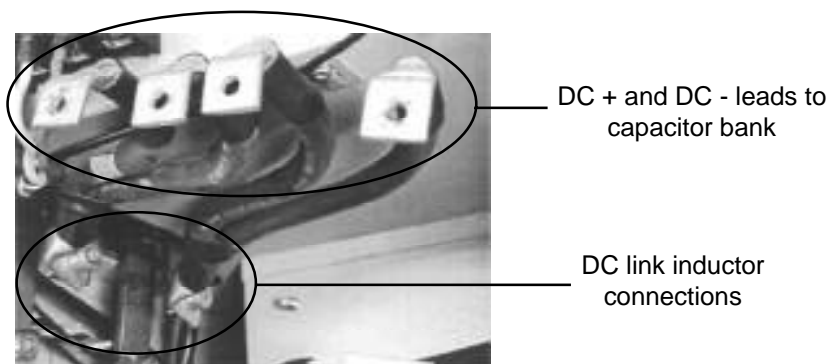

Figure 5. DC capacitor bank connections
- **NEMA 12** - Remove the DC+ and DC- leads coming from the DC link inductor to the top of the capacitor bank (See Figure 5). Ensure these leads are taped off and adequately insulated to protect personnel and equipment.
- **Chassis and NEMA 1** - Remove the two Torx head screws from the DC link inductors while keeping the wire assemblies attached to the DC bus assembly (See Figure 5). It may be easier to first remove these wires from the DC capacitor bank, then remove the two Torx head screws.